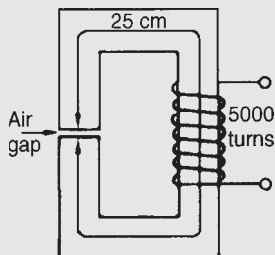

Figure 7.6
**Problem 15.** A section through a magnetic circuit of uniform cross-sectional area 2 cm2 is shown in Fig. 7.6. The cast steel core has a mean length of 25 cm. The air gap is 1 mm wide and the coil has 5000 turns. The B–H curve for cast steel is shown on page 74. Determine the current in the coil to produce a flux density of 0.80 T in the air gap, assuming that all the flux passes through both parts of the magnetic circuit.